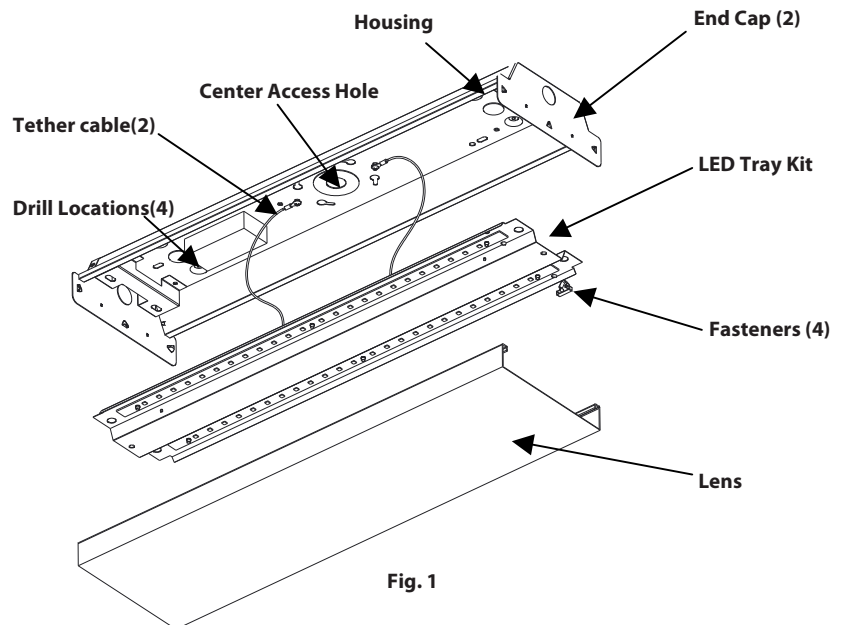

Fig. 1
3. Pull supply wires from Junction Box (not supplied) through **Center Access Hole** of **Housing** as shown in **Fig. 1**. Use appropriate UL-rated wire connectors as required by code to make electrical splices to fixture leads.
2. For electrical wiring, snap out the Lens and LED tray kit as shown in **Fig.1**.